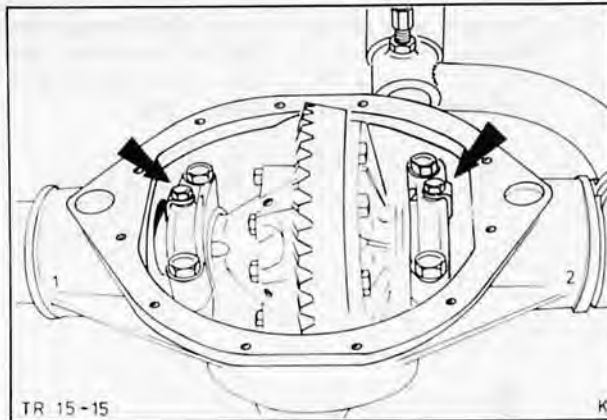

Fig. 55. Attach lock plates to ring nuts
40. Attach lock plates (2) to ring nuts, Fig. 55. Fit cover to rear axle casing and bolt securely.